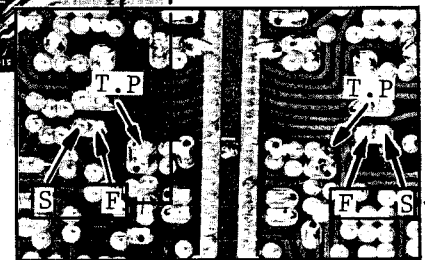

Fig. 10-2 DOLBY T.P.
2. Confirm the input signal level which produces a 580mV output at the Dolby Test Point (see Fig. 10-2).
On checking the preceding Minimum Required Input Level, if a 1.5dB or more difference between left and right channel is found, solder together (short) the two terminals indicated in Fig. 10-2 for the higher reading channel.
3. Set the RECORD control (L. channel) so that a voltage of 580 mV appears at the Dolby T.P. Fig. 10-2.